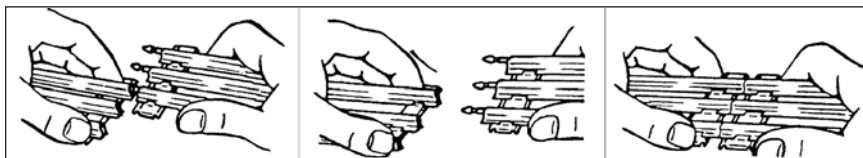

Figure 1. “Breaking in” your track
**Hint!** If the track is difficult to connect, try inserting and withdrawing the track pin into one opening at a time before joining the entire track section. Refer to Figure 1. If the openings become too large, pinch the rail around the track pin with a pair of pliers.